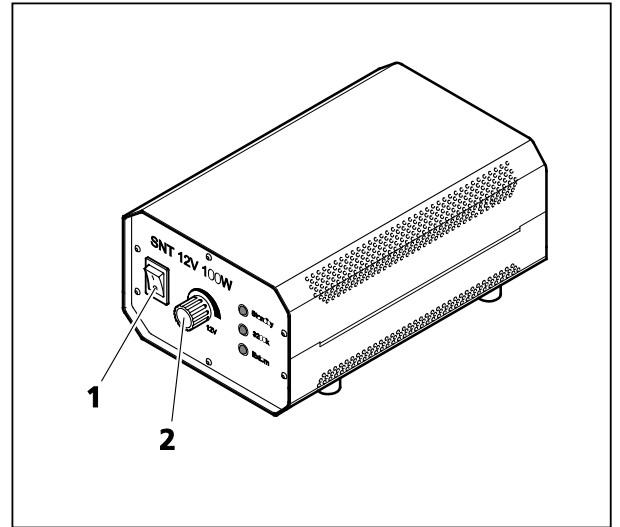

Figure 4-1 HAL 100 external power supply unit
(3) Setting of a transmitted-light bright field according to KÖHLER
- The transmitted-light illumination is switched on at the external power supply unit (Figure 4-1/1).
- Set image brightness using the light intensity controller (Figure 4-1/2) at the external power supply unit.